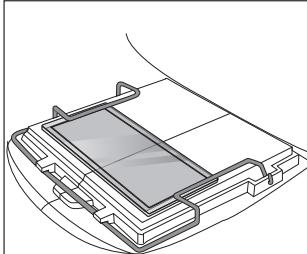

Fig.7c
- ④ Now it is ready to use (see Fig.7c). When you don't need the magnifier lens, please take it off and affix the inner cover lens onto the filter.